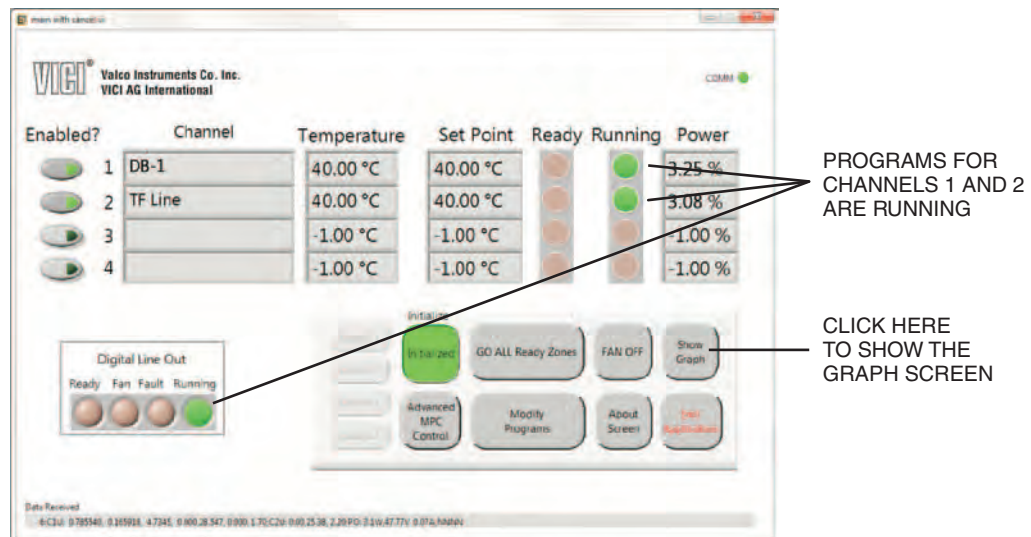
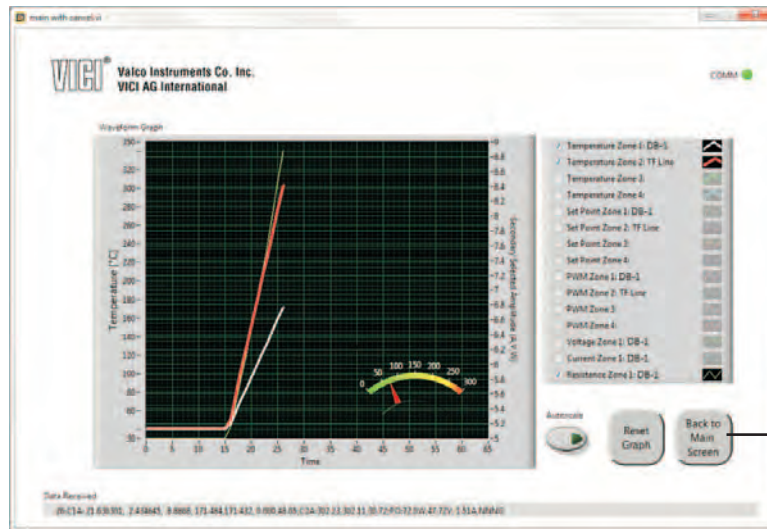

Figure 15: The controller is running the programs on Channels 1 and 2.
Figure 16: The Graph screen showing current temperatures for the column and transfer line and the resistance of the column heater
2. The green LEDs in **Figure 15** indicate that the controller is running the programs for Channels 1 and 2. Click the "Show Graph" button to open the Graph screen (**Figure 16**).